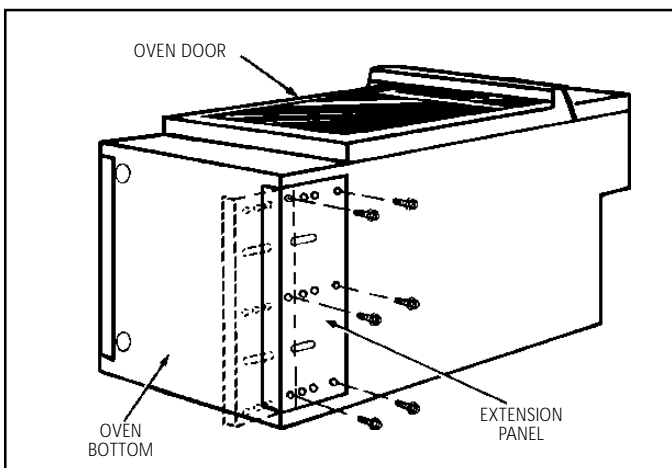

Figure 5
- A. Lay oven on its back. (see figure 5)